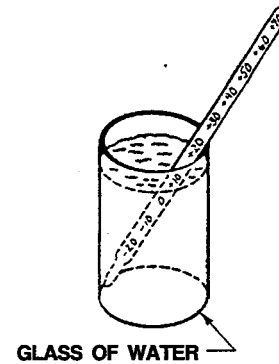

Figure 4
h. In refrigerator section, place thermometer in a glass of water and place in middle of refrigerator. Wait 5-8 hours. If temperature is not 38° to 40°F ($+3^{\circ}$ to $+4^{\circ}\text{C}$), adjust the control, one number at a time. Check again after 5-8 hours. See Figure 4.